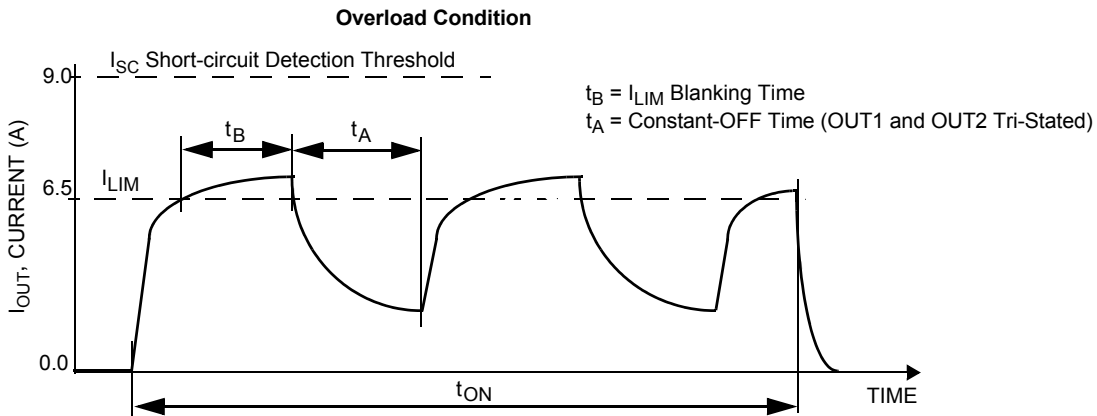
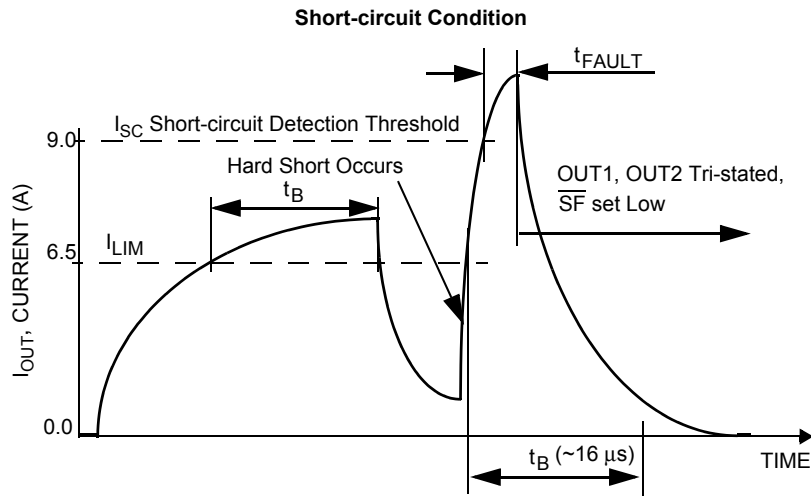
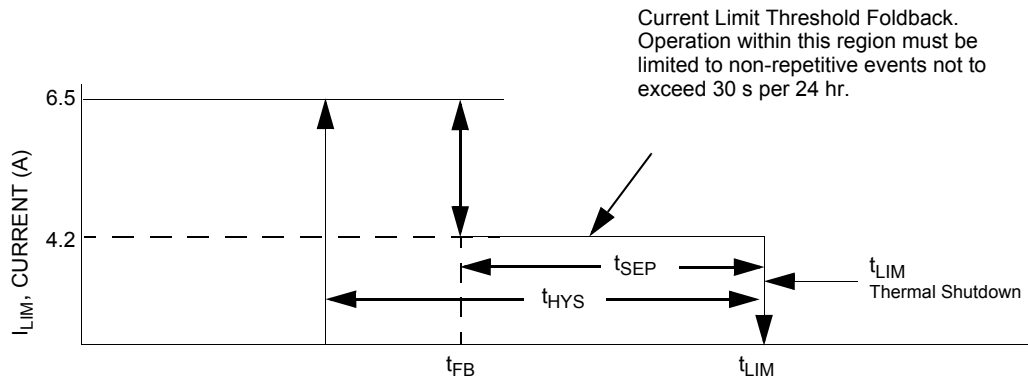

Figure 7. Current limit blanking time and constant-off time
Figure 8. Short-circuit detection turn-off time t_{FAULT}
Figure 9. Output current limiting foldback region
- Load currents ramping up to the current regulation threshold become limited at the I_{LIM} value (see Figure 7). The short-circuit currents possess a di/dt which ramps up to the I_{SCH} or I_{SCL} threshold during the I_{LIM} blanking time, registering as a short-circuit event detection and causing the shutdown circuitry to force the output into an immediate tri-state latch-OFF (see Figure 8). Operation in Current Limit mode may cause junction temperatures to rise. Junction temperatures above $\sim 160\text{ }^\circ\text{C}$ causes the output current limit threshold to “fold back”, or decrease, until $\sim 175\text{ }^\circ\text{C}$ is reached, after which the T_{LIM} thermal latch-OFF occurs. Permissible operation within this fold back region is limited to non-repetitive transient events of duration not to exceed 30 seconds (see Figure 9).